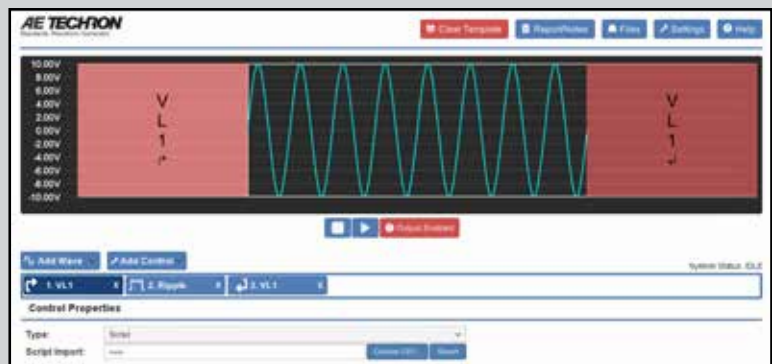

Figure 6.13 – Script VL Creation - Select "Script" Type
3. Open the properties window for the Variable Loop Start segment and change the Type property to "Script." A new property labeled "Script Import" will appear in the Control Properties window. See **Figure 6.13**.